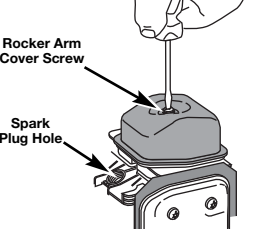

Fig. 40
- Clean dirt from around the rocker arm cover. Remove the screw holding the rocker arm cover with a large flat blade screwdriver or Torx T-25 bit (Fig. 40). Remove the rocker arm cover and gasket.